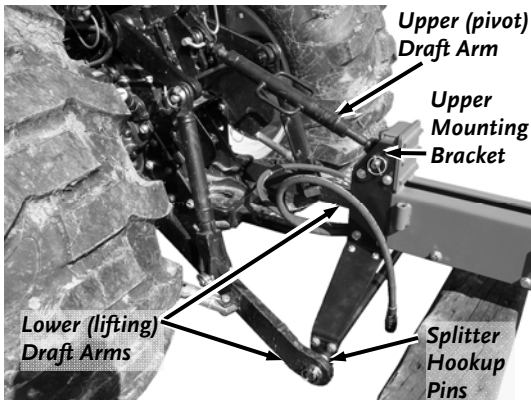

Figure 15
1. Position the Tractor to the Log Splitter and position the Lower Draft Arms to the Splitter Hookup Pins (**Figure 15**).